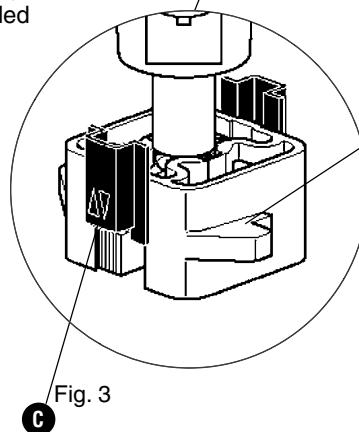

Fig. 3
1. Slide the black coupling lock (C) up into the unlocked position. (See Figure 3).